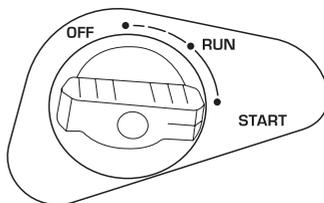

Fig. 6
3. Turn the air choke control knob to the "OFF" position (Fig. 6).